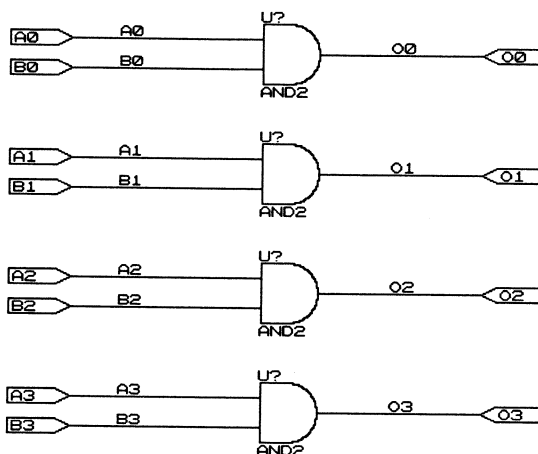

Figure 11-13 Schematic Drawing for ANDBLK2
The schematic for ANDBLK2 is shown in Figure 11-13. Since the drawing for ORBLK2 is very similar to ANDBLK2, ANDBLK2 is created first and then edited to create ORBLK2.
7. Position the symbol as shown in Figure 11-13 and select **Place**.
The completed schematic should look like the drawing in Figure 11-13.